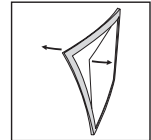

Figure 3
- Place your finger in the recess at the bottom edge of the frame and flex the frame upward until it comes off one edge **Figure 3**.